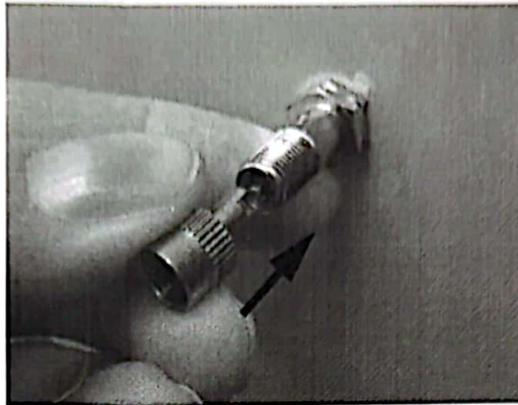

Figure 24 To Let Air Out - Use the End of the Special Cap to Press the Inner Part of the Valve
6. To let air back out through the air valve, use the end of the special cap to press on the inner part of the valve (see Figure 24).